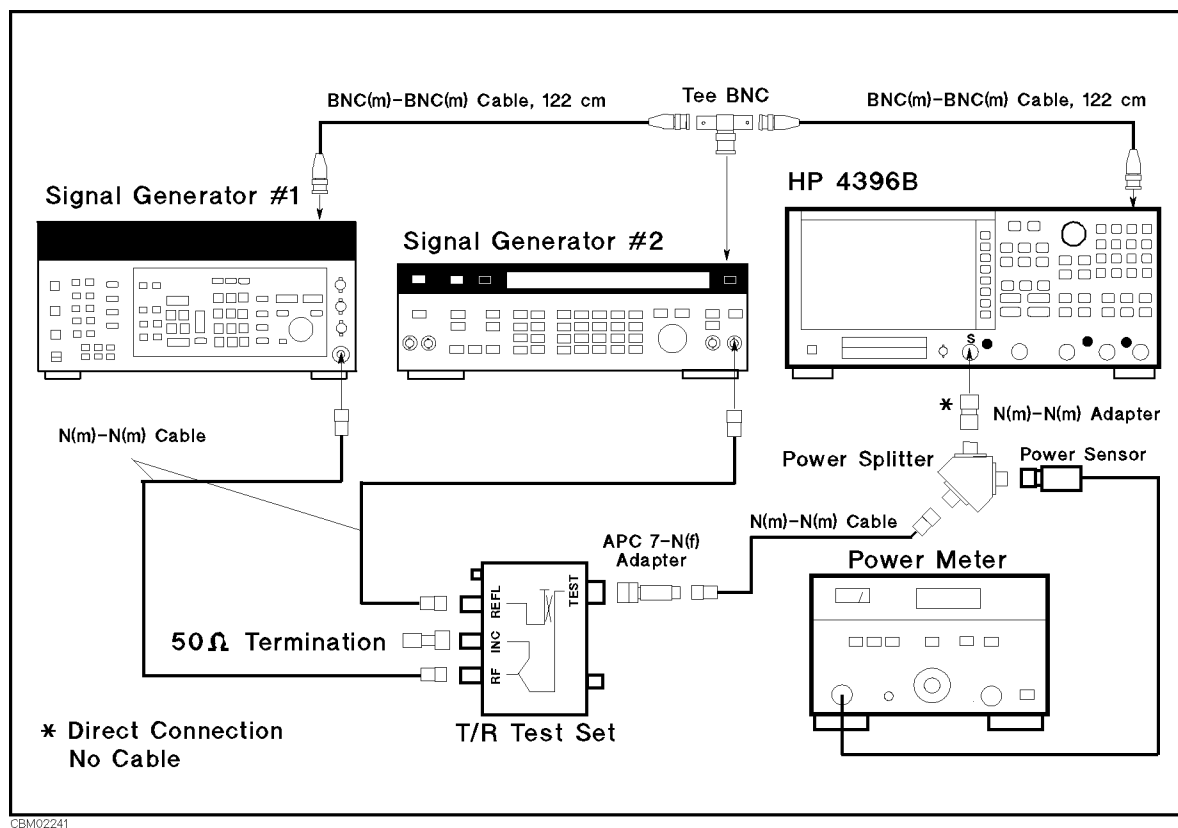

Figure 2-30. Third Order Intermodulation Distortion Test Setup
1. Connect the test equipment as shown in Figure 2-30.
Connect the signal generator's 10 MHz frequency reference output to the 4396B EXT REF Input on the rear panel as shown in Figure 2-30. With this configuration, both the signal generator and the 4396B are phase locked to the same reference frequency to obtain a stable measurement.